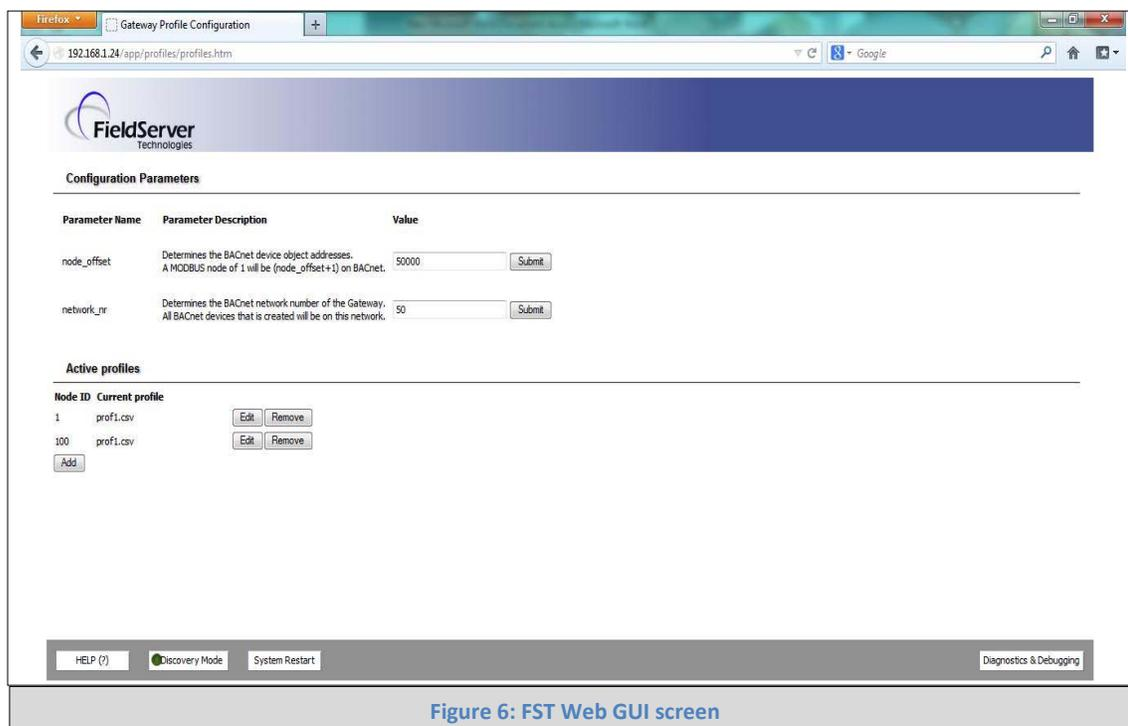

Figure 6: FST Web GUI screen
- If the Device Instances need to be set for addresses other than 50,000 to 50,127, change the Node+Offset (50,000 is the default for Node+Offset). See Section 4.1 to set the PC's IP address to the same Subnet as the ProtoNode and Section 4.2 to connect to the ProtoNode's Web Configurator which is shown in Figure 6.
- BACnet/IP/BACnet MS/TP Addressing: The BACnet device instances will be set by taking the Node_Offset found in Web Configurator (see Figure 6) and adding it to the Modbus Node- ID that was assigned to the device (Section 2.2).
- Open the PC browser; enter the default IP address of ProtoNode 192.168.1.24, which will bring you to the FST Web Configurator landing page for the ProtoNode. (See Figure 6)